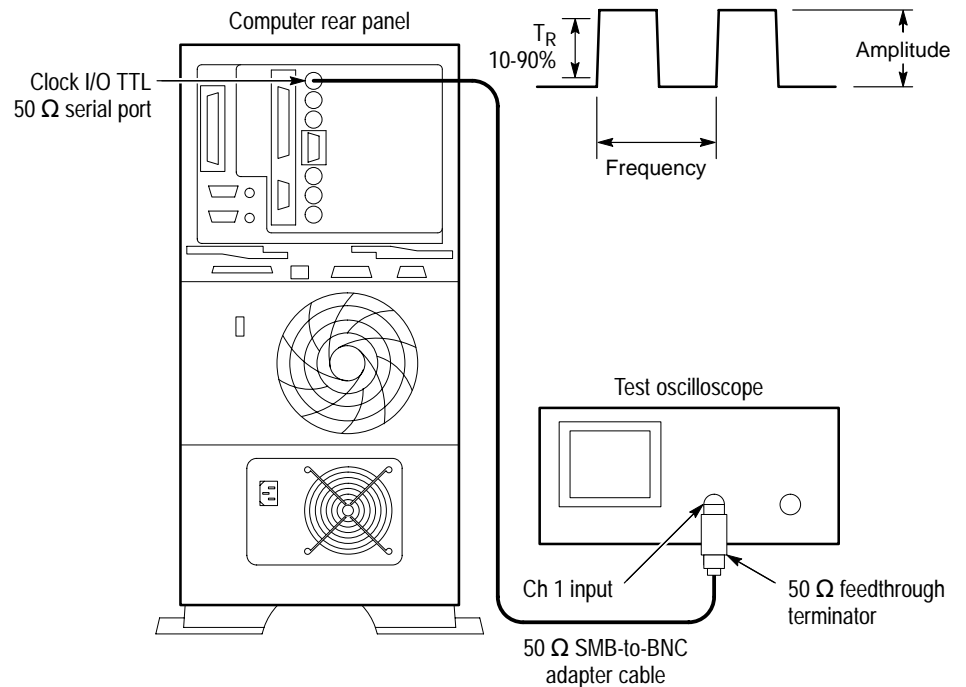

Figure 11: Setup for measuring the TTL 50 ohm clock I/O port
13. Connect a 50 Ω SMB-to-BNC adapter cable from the TTL 50 Ω Clock I/O Port, through a 50 Ω feedthrough terminator, to the oscilloscope input. See Figure 11.
16. Verify a waveform frequency of approximately 1 MHz, an amplitude of approximately 3.0 volts, and a rise time of approximately 2.0 ns. See Figure 11.
21. Move the test system output cable to the TTL 50 Ω Clock I/O Port as shown in Figure 11.
23. Verify a waveform amplitude of approximately 3.0 volts, frequency of 45 MHz, and rise time of approximately 2.0 ns. See Figure 11.